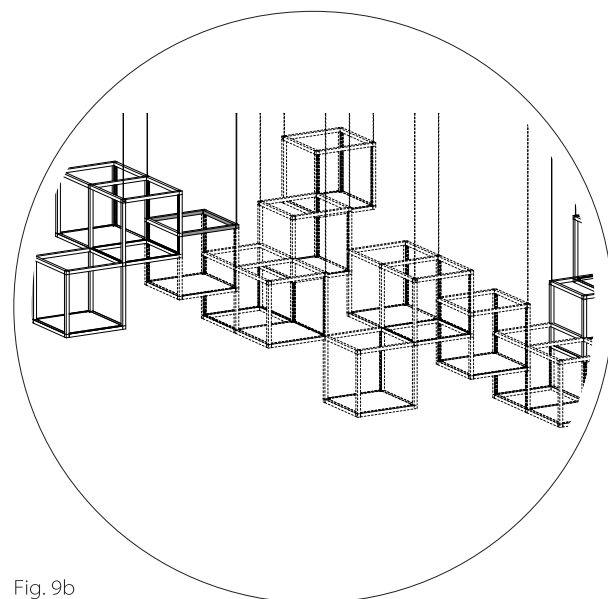

Fig. 9b
- 18c. Section as part of whole assembly shown in Fig. 9b.